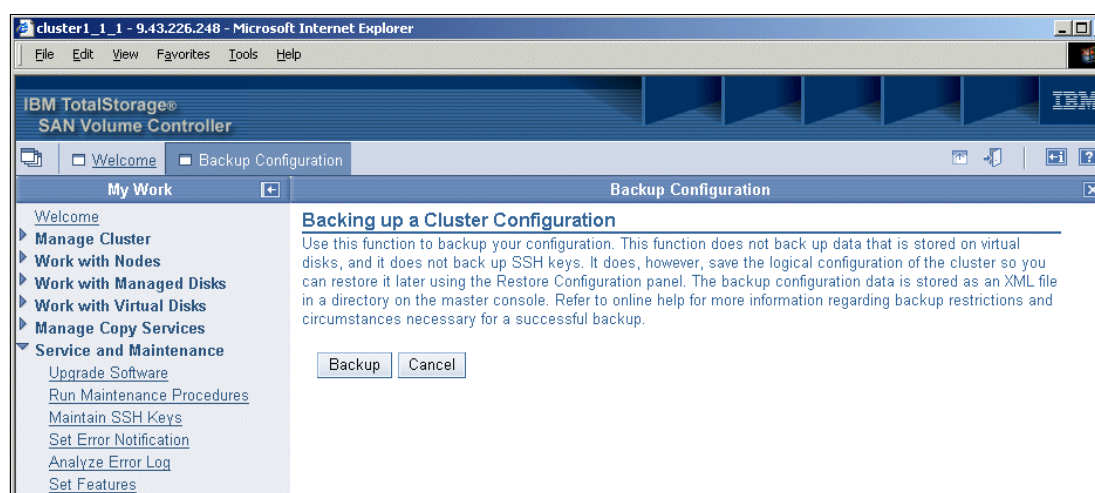

Figure 9-99 Backing up a Cluster Configuration data
2. On the Backing up a Cluster Configuration panel (Figure 9-99), click the **Backup** button.